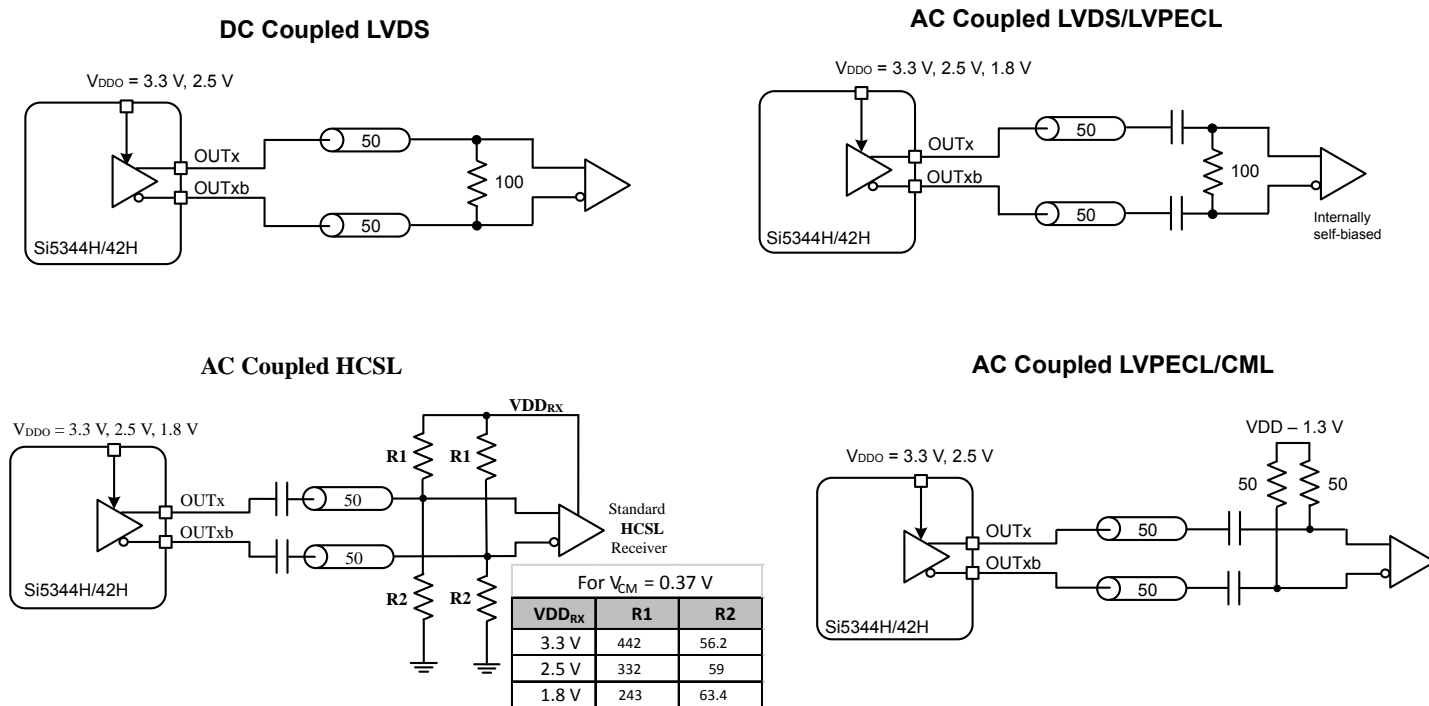

Figure 5.2. Supported Differential Output Terminations
- **Differential Normal Swing Mode**—This is the usual selection for differential outputs and should be used, unless there is a specific reason to do otherwise. When an output driver is configured in normal swing mode, its output swing is selectable as one of 7 settings ranging from 200 mVpp_{se} to 800 mVpp_{se} in increments of 100 mV. The table below lists the registers that control the output voltage swing. The output impedance in the Normal Swing Mode is 100 Ω differential. Any of the terminations shown in Figure 5.2 Supported Differential Output Terminations on page 30 are supported in this mode.
- **Differential High Swing Mode**—When an output driver is configured in high swing mode, its output swing is configurable as one of 7 settings ranging from 400 mVpp_{se} to 1600 mVpp_{se} in increments of 200 mV. The output driver is in high impedance mode and supports standard 50 Ω PCB traces. Any of the terminations shown in Figure 5.2 Supported Differential Output Terminations on page 30 are supported. The use of High Swing mode will result in larger pk-pk output swings that draw less power. The trade off will be slower rise and fall times.